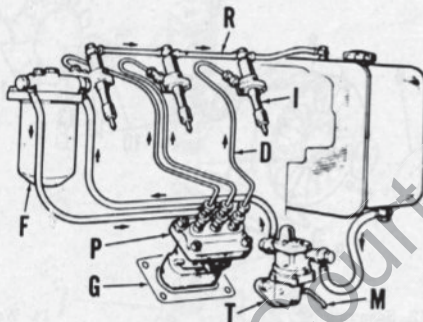
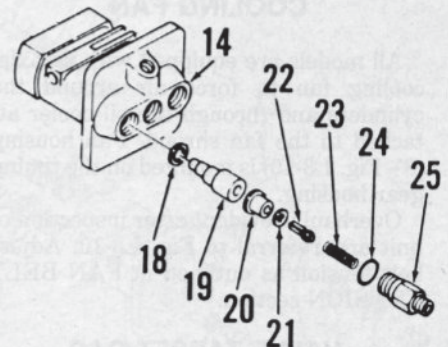

Fig. L3-5 - Fuel circuit diagram for Models 833 and L40. Models 832 and L27 are similar.
Fig. L3-9 - Partial exploded view of fuel injection pump used on all models except 834 and L54.
To bleed fuel system on all other models, loosen bleed screw on fuel filter housing then operate primer (M—Fig. L3-5) on fuel transfer pump until air-free fuel flows. Retighten bleed screw. Open injection pump bleed screw, on models so equipped, or loosen inlet fuel line fitting at injection pump. Operate primer (M) until air-free fuel flows, then tighten bleed screw or fuel fitting. Loosen high pressure line fittings at injectors. Rotate engine to operate fuel injection pump until air-free fuel flows then retighten fittings.
Fuel injection occurs between 25° and 26° 5'. Injection timing is adjusted using shim gaskets (G - Fig. L3-5) between pump body and mounting surface on crankcase. To check injection timing, unscrew number 1 cylinder delivery injection line (D) fitting from delivery valve holder (25 - Fig. L3-9). Unscrew
gaskets (G-Fig. L3-5); install shim gaskets to retard injection timing. Reinstall removed pump parts after checking timing. Tighten injection pump retaining screws to 29.4 N·m.